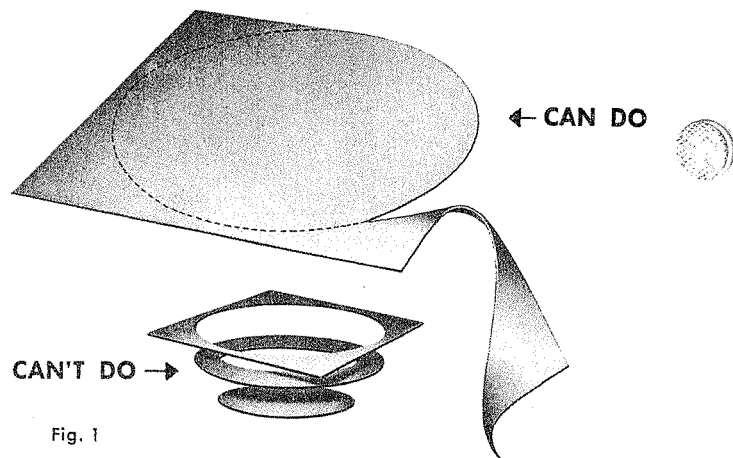

Fig. 1
1. Attach horn bracket (84) to frame.
3. Adjust the height of the lower clamping disc (91) so that the plane of its top surface is tangent to the cutting edge of the lower cutter.
4. The radius of circle to be cut can be controlled by moving the circle arm (78) in or out along the horn (80). Fasten securely after setting.
5. The center of square blank can be scribed off by crossing lines from the corners of the plate. The blank can be centered by use of the swing gage. The metal is butted up against the gage and the upper cutter. Shearing must always start from a flat edge of the blank. Therefore, the off cut piece is always curled and distorted as illustrated (Fig. 1). Do not attempt to shear circles by forcing the upper cutters down into the blank. This type of shearing must be done on a ring and circle shear made for the purpose where both